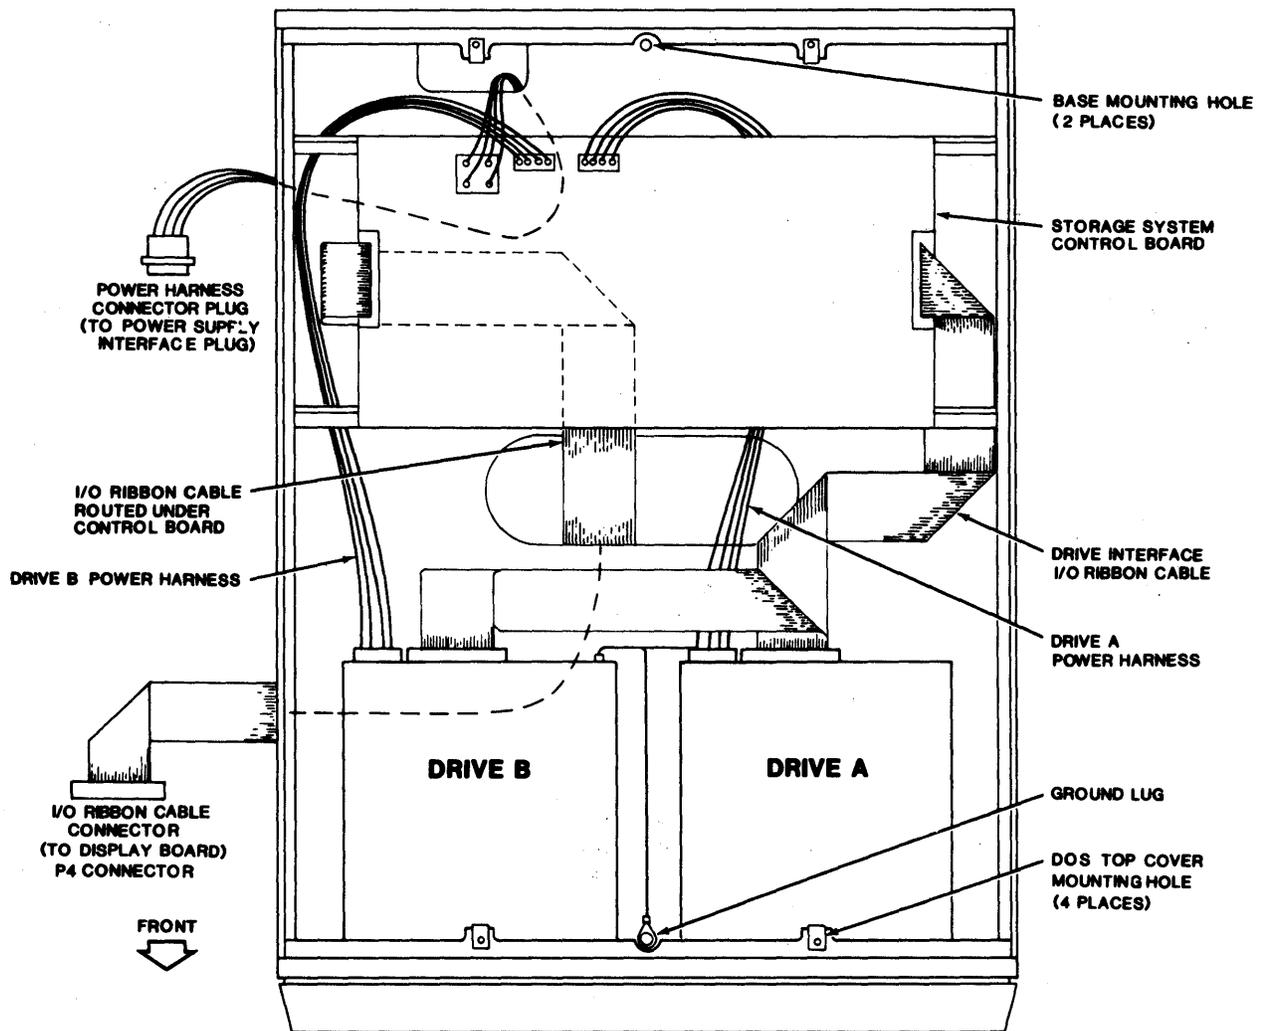

Figure 6-4. K205 DOS Assembly, Top View with Cover Removed
6. Fold the I/O ribbon cable under the Disk Controller Board so that it is routed to the left Controller Board connector, J3, as shown in Figure 6-4. Pin 1 is at the front of connector J3. Connect the I/O ribbon cable to the Controller Board connector. Ensure that no cables interfere with the final positioning of the DOS assembly, and seat the assembly on the top of the K205 chassis.